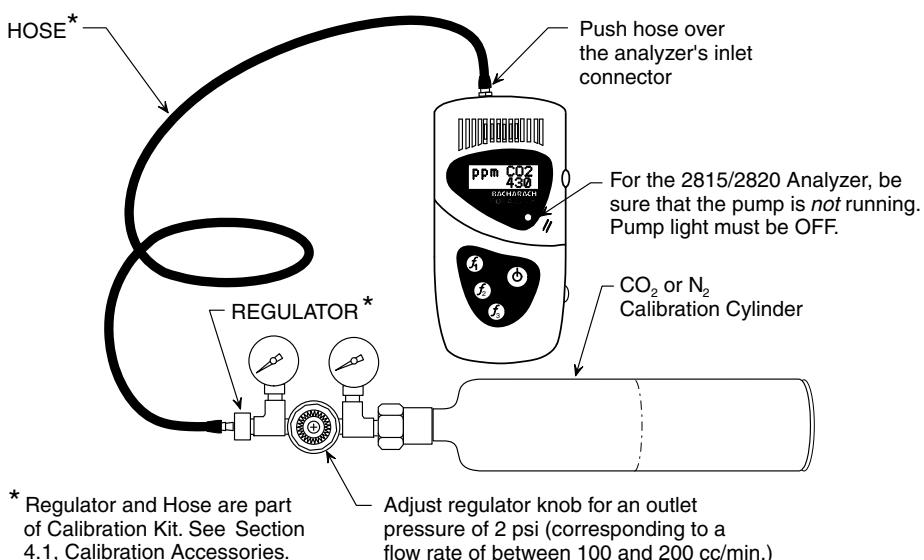

Figure 3. Calibration Equipment
3. Using the Calibration Accessories listed in Section 4.1, attach a CO₂ calibration gas cylinder to the inlet of the analyzer as shown in Figure 3. The applied CO₂ concentration must equal the gas value displayed in the *top* line of the Gas Calibration screen.
3. Using the calibration accessories listed in Section 4.1, attach a 100% N₂ gas cylinder to the inlet of the analyzer as shown in Figure 3. Then adjust the regulator attached to the gas cylinder for an outlet pressure of 2 psi (equivalent to a flow rate of approximately 120 cc/minute). If N₂ is unavailable, turn ON the analyzer's pump and allow it to draw in fresh air for at least 30 seconds before proceeding.
4. Remove the 100% N₂ cylinder (if used); then attach a CO₂ calibration gas cylinder to the inlet of the analyzer as shown in Figure 3. The applied CO₂ concentration must equal the gas value displayed in the *top* line of the Gas Calibration screen.